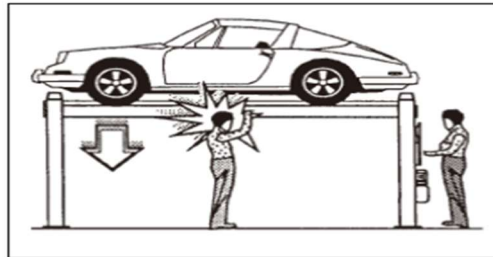

Figure 31 - Risk of injury under the platforms
- **During the lifting and lowering of the lifting platform, stay clear of the moving parts of the lift. The operator needs to confirm that there is no one in the hazardous area before the lifting operation. (Figure 31)**